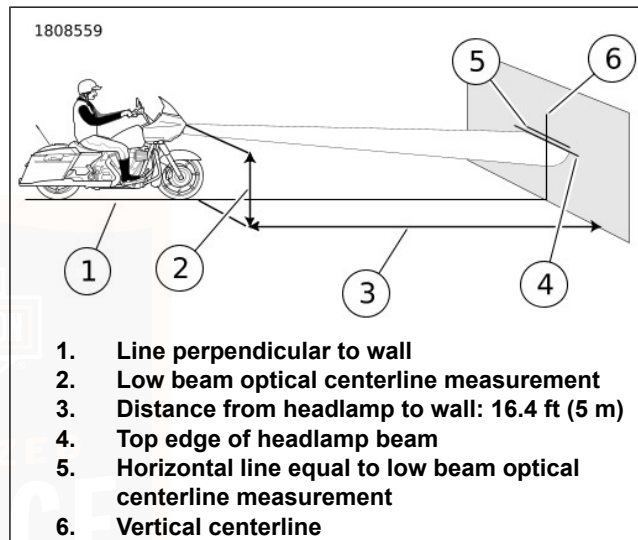

Figure 113. Headlamp Alignment
4. See Figure 113. Park the motorcycle on a line (1) perpendicular to the wall.
5. Position motorcycle so that the front of the headlamp is 16.4 ft (5 m) from the wall (3).
6. Draw a vertical centerline (6) on the wall aligned with perpendicular line (1).
7. With the motorcycle loaded, point the front wheel straight at wall. Measure the distance from the floor to the motorcycle eyebrow and subtract Distance: 1 in (25 mm) from that measurement to find low beam optical centerline (2).
8. Draw a horizontal line (5) through the vertical line on the wall, the same distance (2) from the floor as the low beam optical centerline. Draw another horizontal line (4) Distance: 1 in (25 mm) below horizontal line (5).